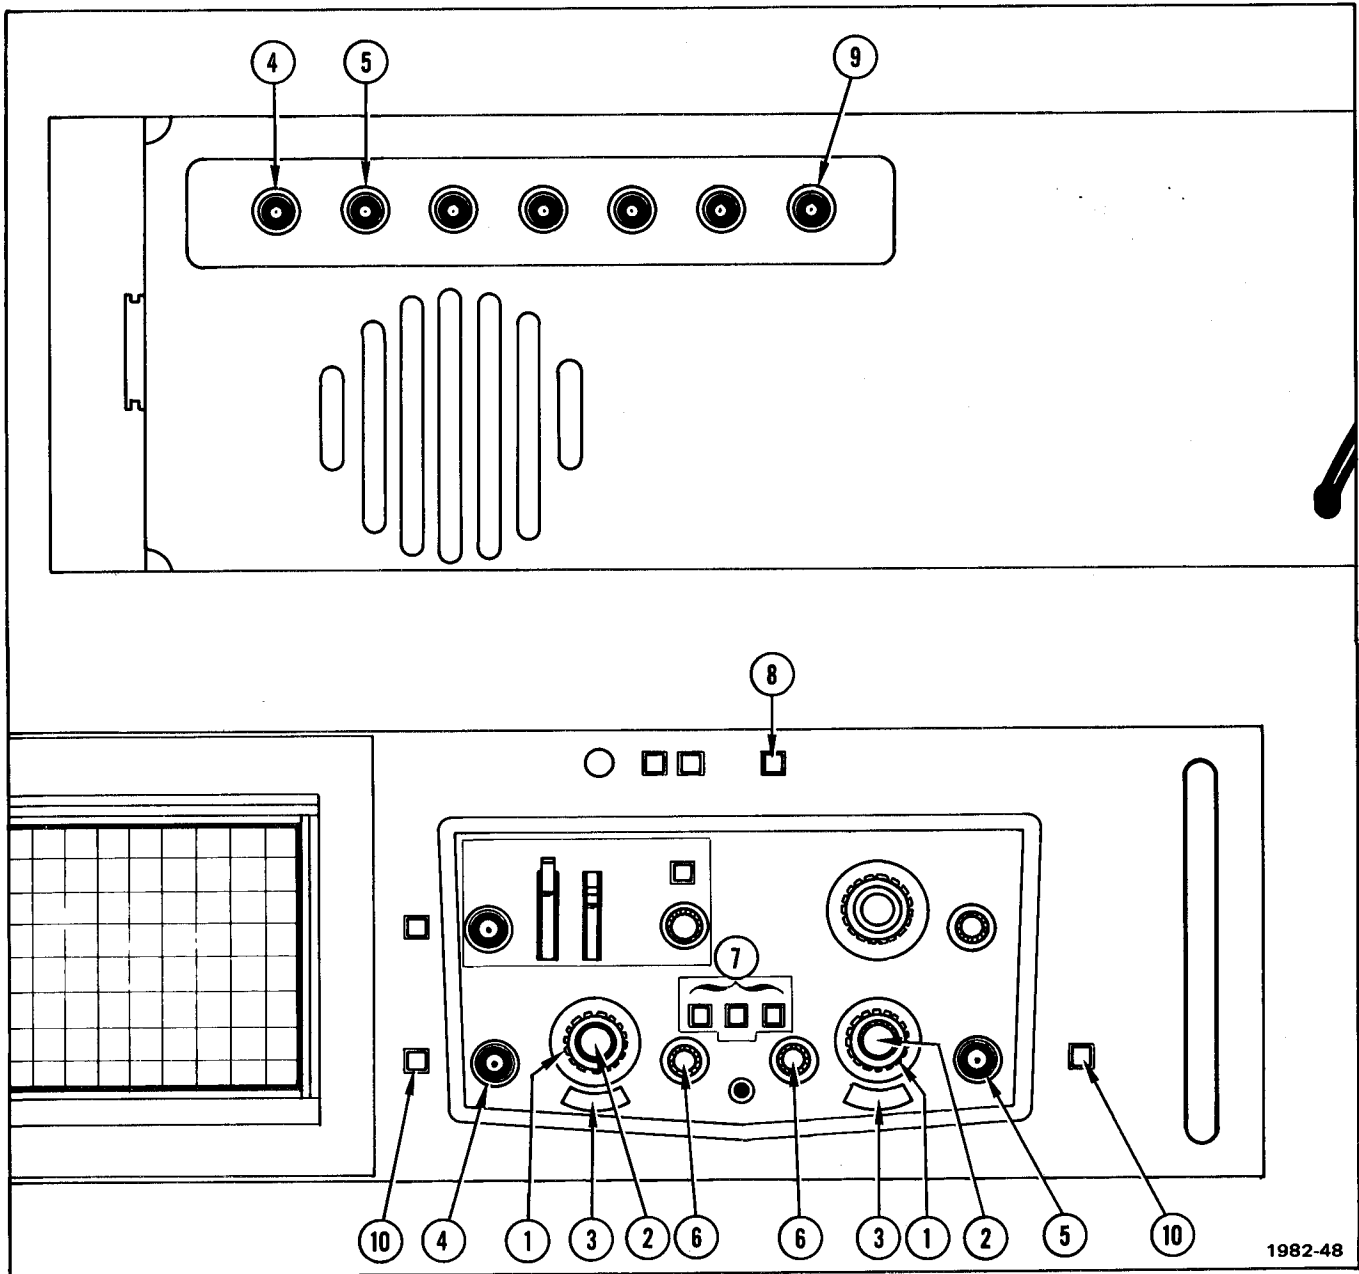
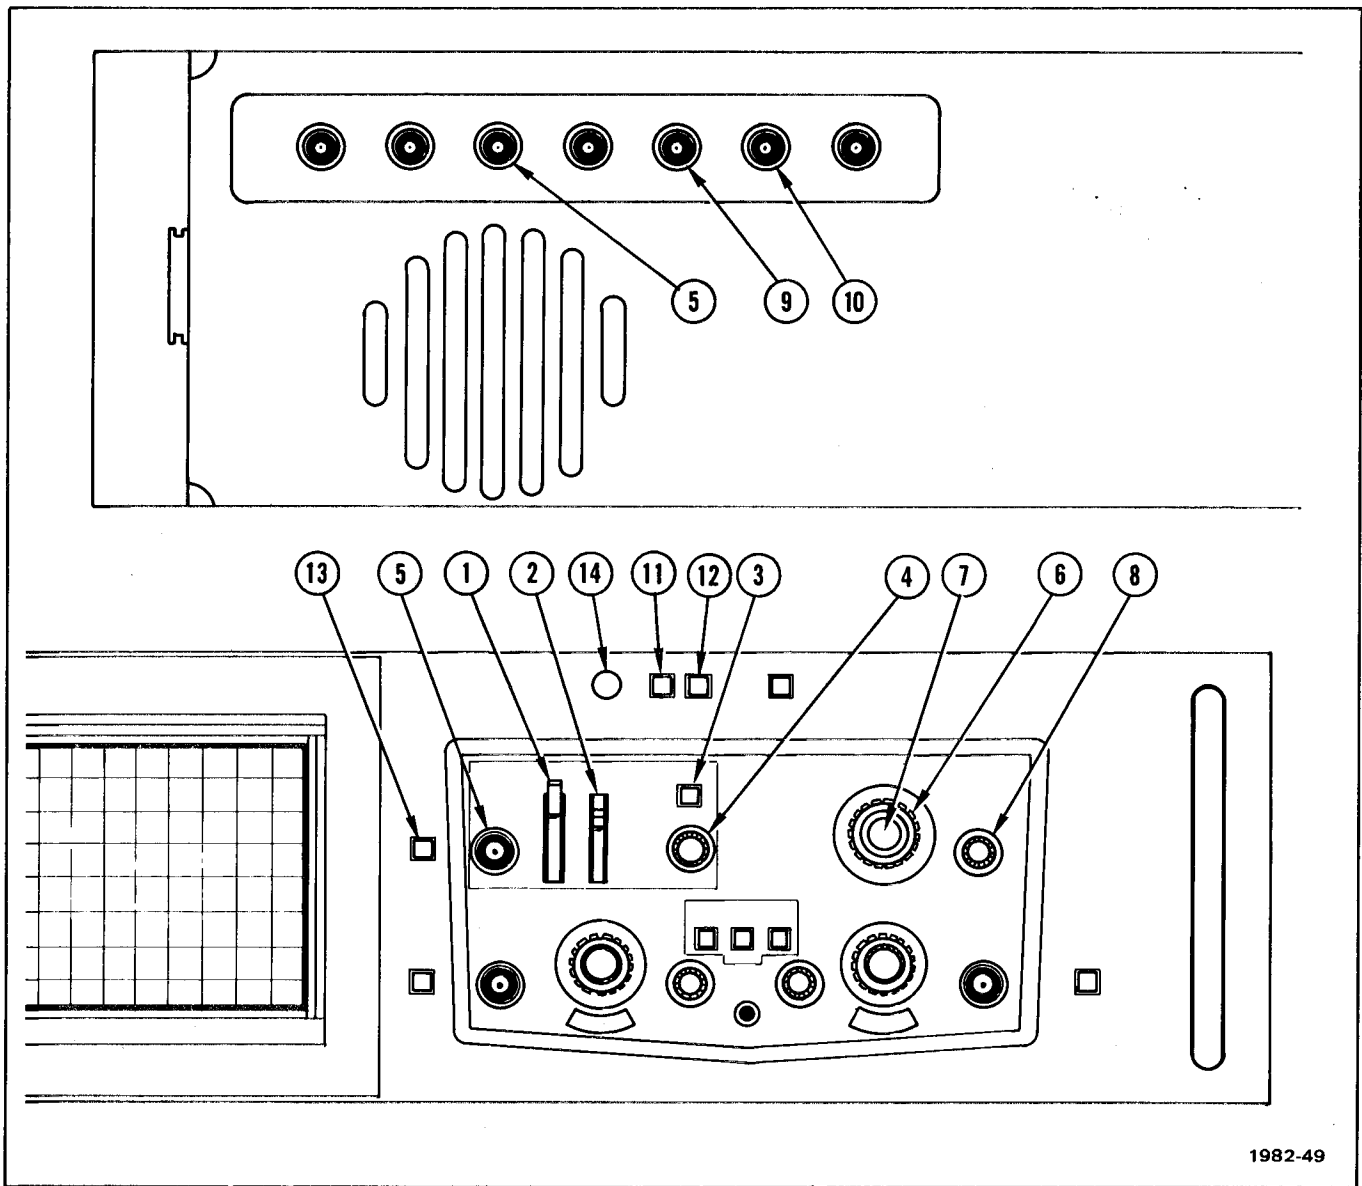

Fig. 2-8. T922R vertical amplifier controls, connectors, and indicators.
Fig. 2-9. T922R time base controls, connectors, and indicators.
⑮ SCALE ILLUM
⑯ AC RMS RANGE—Indicates the voltage from which the T922R is set to operate.
B. VERTICAL AMPLIFIER (FIG. 2-8)
① VOLTS/DIV
② VAR
③ Input Coupling
④ Channel 1 or Y Inputs—Two switch-selectable inputs for applying signals to Channel 1. One is mounted on the front panel and the other on the rear panel.
⑤ Channel 2 Inputs—Two switch-selectable inputs for applying signals to Channel 2. One is mounted on the front panel and the other on the rear panel.
⑥ POSITION
⑦ Vertical Mode—When operating in the DUAL TRACE mode you must manually select either CHOP or ALT (see control 8).
⑧ CHOP-ALT—Selects either CHOP or ALT dual trace modes. Use CHOP at lower sweep speeds and ALT at higher sweep speeds.
⑨ COMP VERT SIG OUT—The signal available at this connector is a sample of the vertical signal being displayed plus a dc component proportional to the vertical position of the display.
⑩ FRONT-REAR—Two push-button switches, one for CH 1 and one for CH 2, which select either the front or the rear vertical inputs.
C. TIME BASE (FIG. 2-9)
① SOURCE
② MODE—To use the AUTO, NORM, or TV SYNC modes the SINGLE SWEEP/REPETITIVE button must be set to REPETITIVE (out).
③ SLOPE
④ LEVEL
⑤ EXT TRIG or X—Two switch-selectable inputs for external trigger or X axis signals. One is mounted on the front panel and the other on the rear panel.
⑥ SEC/DIV
⑦ X1-X10
⑧ POSITION